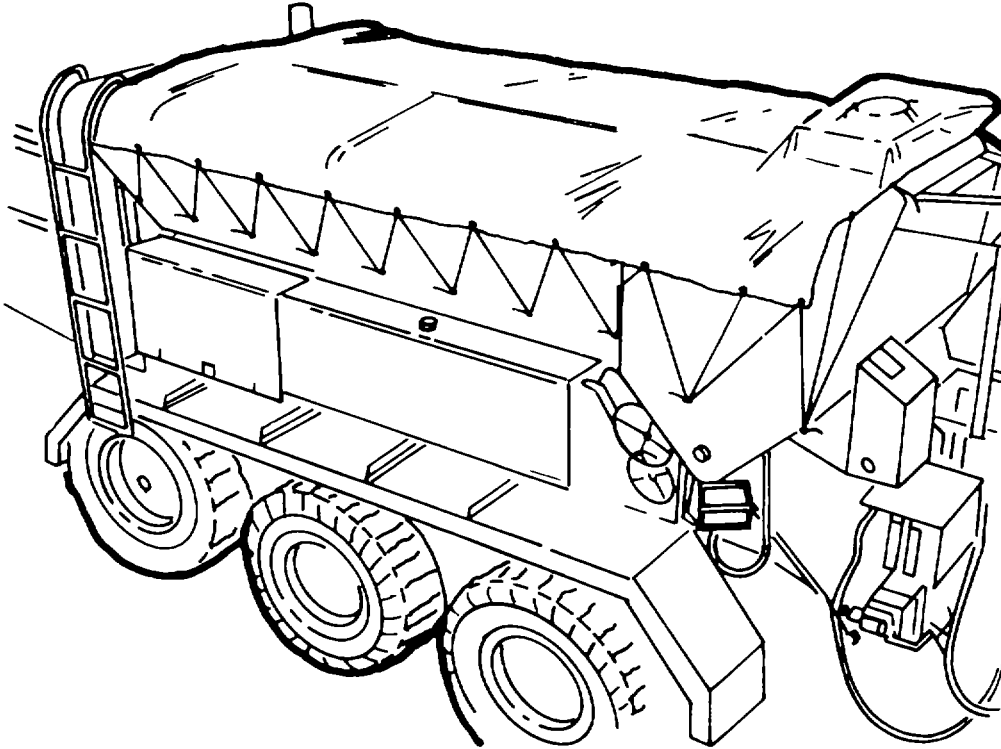

Figure 2-16. Tarpaulin.
- a. Remove the tarpaulin by disconnecting the tie-down ropes from the hooks on the sides of the bins (fig. 2-16).